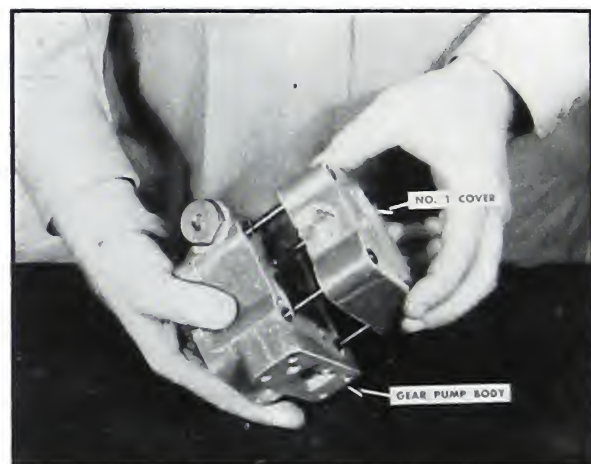

Fig. 5-300. Replace No. 1 cover
6. Coat No. 1 gasket as in Step 1 and assemble No. 1 cover to gear pump. Fig. 5-300. Always use flat steel washers next to aluminum.